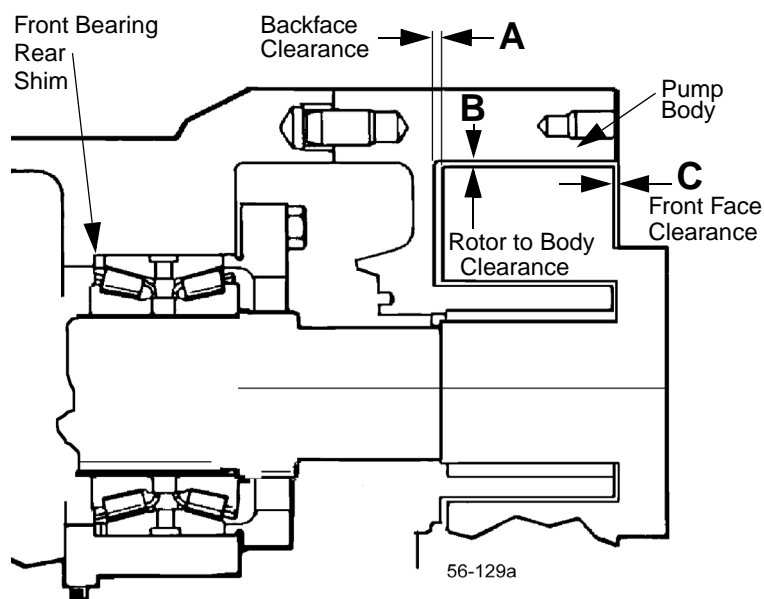

Figure 62 - Clearance Measurements
2. With feeler gauges, measure the rotor backface clearance (Figure 62, item A), through the port or from the front.
3. Measure the rotor front face clearance (Figure 62, item C).
4. Measure the rotor to body clearance (Figure 62, item B).